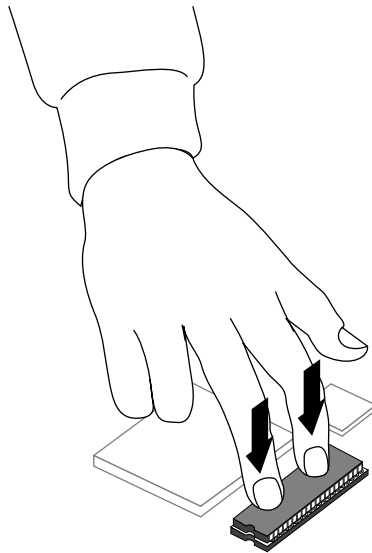

Figure 9-10 Pressing the PROM Chip Into the Socket
7. Once the pins are lined up, press down firmly on the top of the PROM chip until it is completely and evenly seated in the socket, as shown in Figure 9-10.